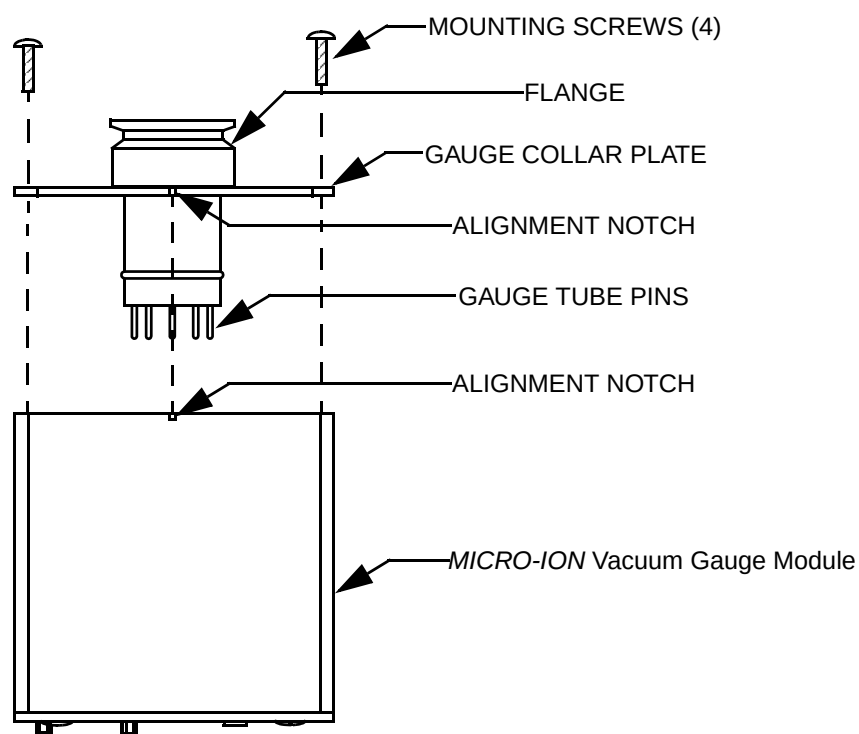

Figure 7-3: Micro-Ion Gauge Replacement
4. Remove the four Phillips head screws from the gauge collar plate as shown in Figure 7-3.
5. While holding the flange, *gently* pull the Micro-Ion Vacuum Gauge Module away from the gauge collar plate as shown in Figure 7-3. The gauge tube and plate will disconnect from the module.
6. Align the notches on the replacement gauge collar plate and the Micro-Ion Vacuum Gauge Module as shown in Figure 7-3.